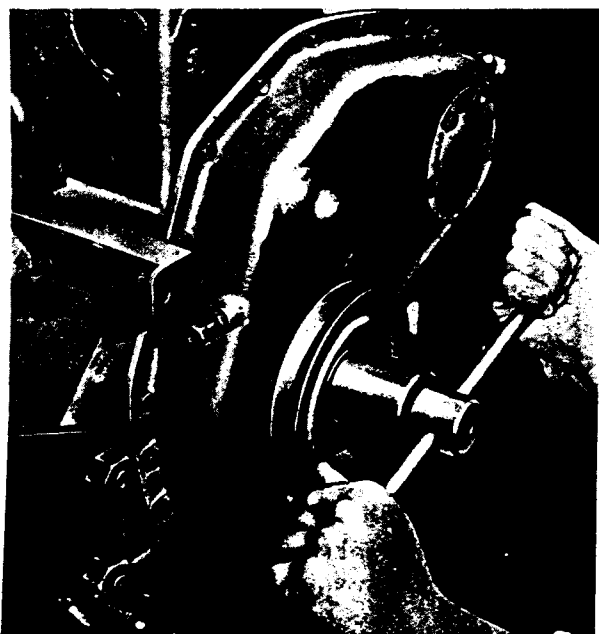

FIG. 126.
3. Remove starting handle jaw, using Service Tool FTB.16, Fig. 126, with long